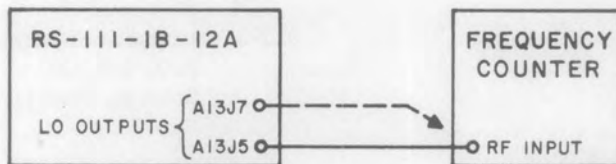

Figure 7-4. Test Setup, Fine Tuning Range
- (1) Connect the equipment as shown in Figure 7-4.
- (2) Set the receiver RANGE MC switch in the 30-60 position. Then set the related tuner dial to 30.
- (3) Place the BFO TUNING control at mid-range. It should remain at mid-range throughout this procedure.
- (4) Rotate the FINE TUNING control to maximum clockwise and record the frequency counter indication.
- (5) Rotate the FINE TUNING control to maximum counterclockwise and record the frequency counter indication.
- (6) Subtract the frequency recorded in step (5) from the frequency recorded in step (4).
- (7) The difference should be at least 25 kc.
- (8) Place the RANGE MC switch in the 60-300 position. Then set the related tuner dial to 60.
- (9) Repeat steps (4) through (6). The difference should be at least 20 kc.
- (10) Move the cable from A13J5 to A13J7.
- (11) Place the RANGE MC switch in the 235-500 position. Then set the related tuner dial to 250.